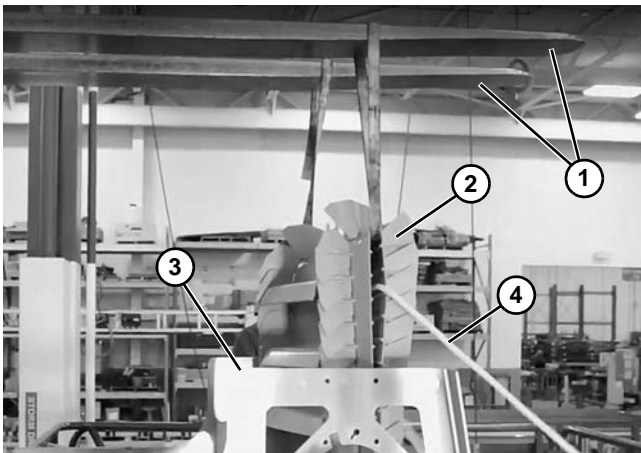

Figure 10
- Use a lift (Figure 10, item 1) to raise the belt (Figure 10, item 2) above the top of the conveyor frame (Figure 10, item 3).
- Remove the rope (Figure 10, item 4).